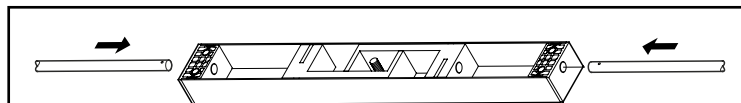

Figure 6a
1. Insert the rods into the handle mechanism (**Figure 6a**).